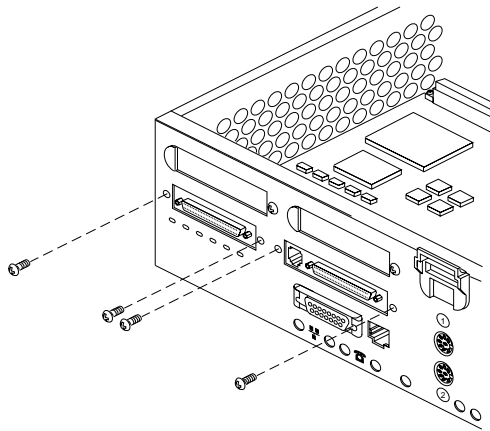

Figure 9-8 Removing the Screws From the IOPLUS Board's I/O Connector
7. Use a Phillips screwdriver to remove the four screws from the IOPLUS or GIO extender board's I/O connector on the rear of the server, as shown in Figure 9-8.
16. Reattach the screws that secure the board to the backplane. See Figure 9-8.